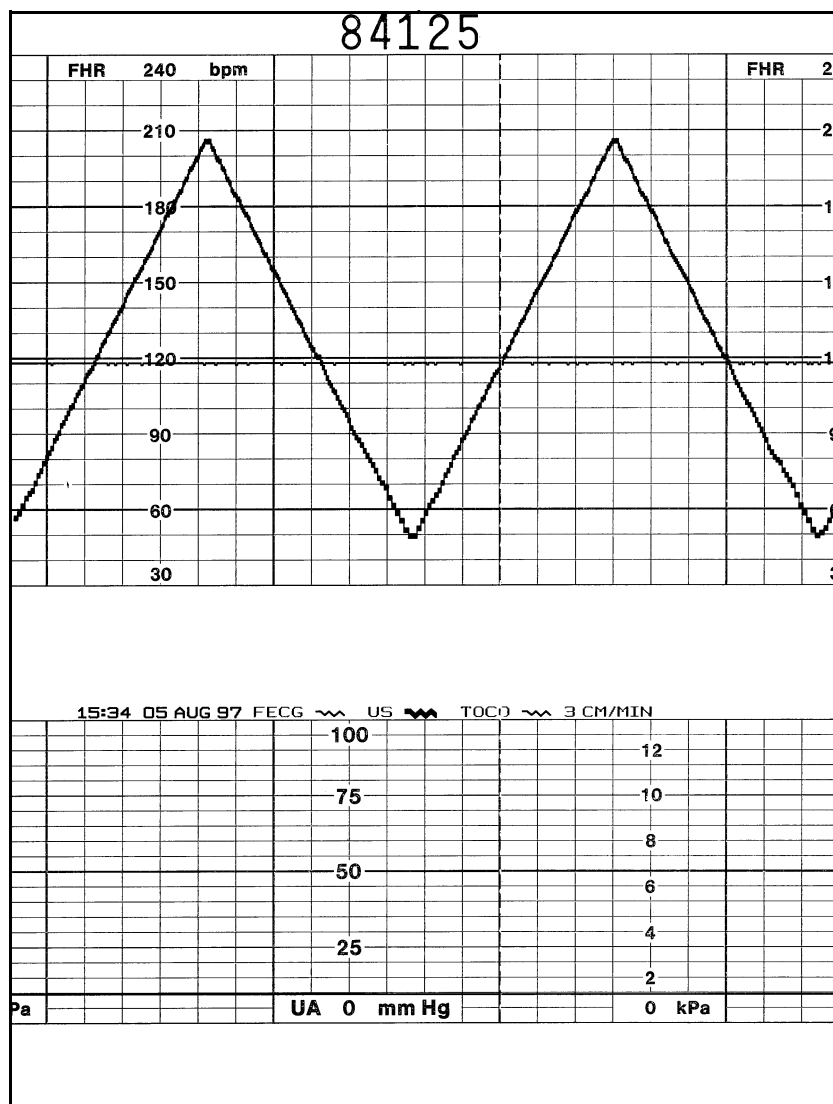

Figure 6-6. Dual Heart Rate, FECG and US
- ◆ The FHR1 trend is a continuous plain black line (—) on the 120 BPM mark on the top grid of the strip chart paper. (Refer to Figure 6-6.)
- ◆ The FHR2 trend is a bold black ramp trace (—) between 50 and 210 BPM on the top grid of the strip chart paper. (Refer to Figure 6-6.)